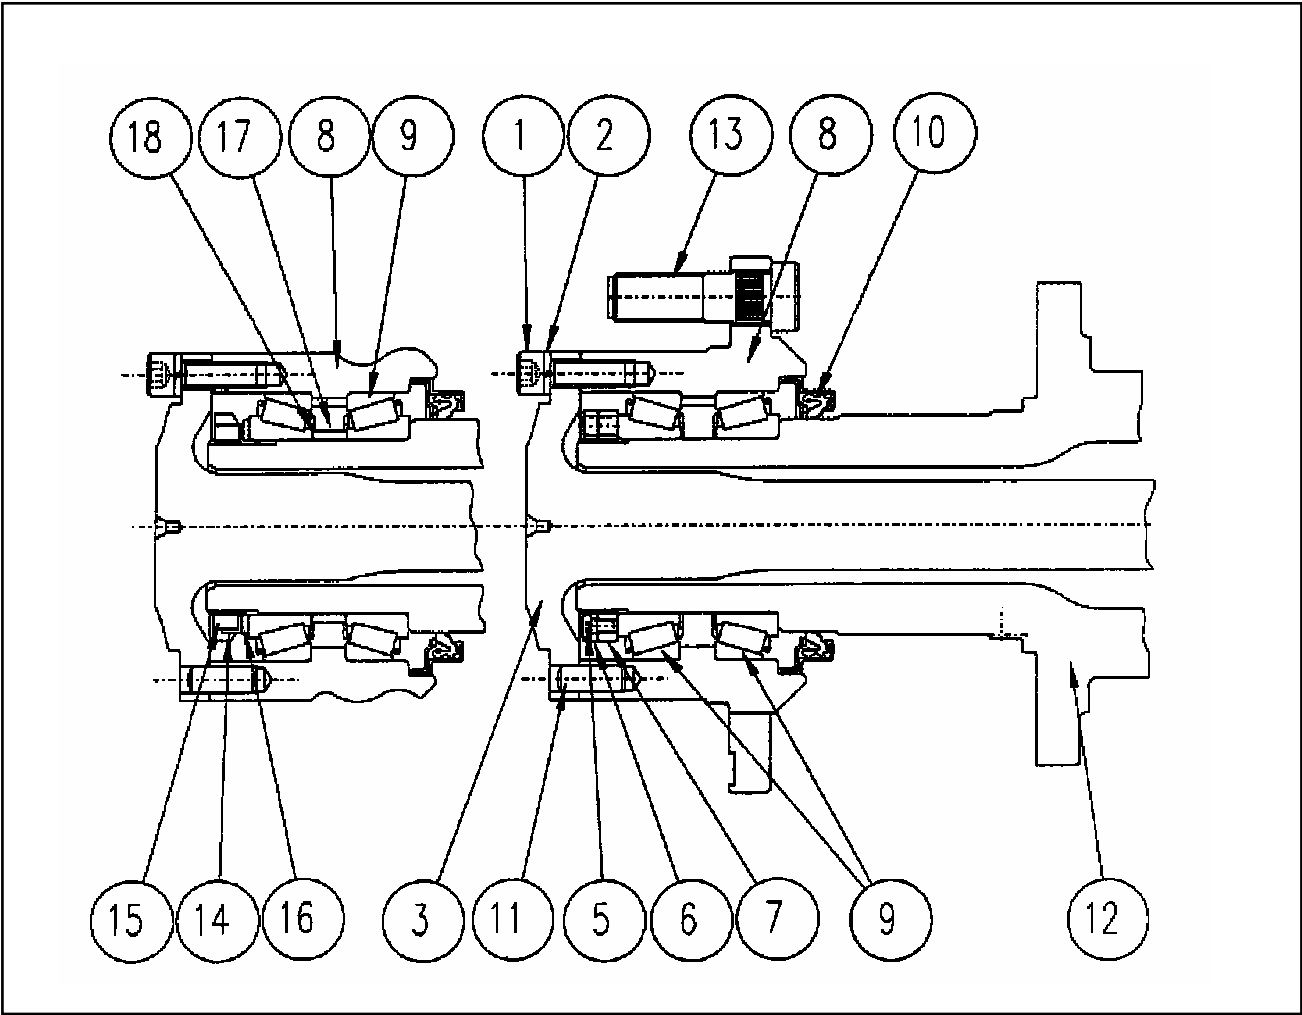

Figure B22 - Section Through Hub
The item numbers in the text refer to the components shown on **Figure B22**. The diagram is schematic only and as such does not accurately represent the actual shape of the components. For identification of actual parts, part numbers and quantities, please refer to the Parts List supplied as a separate manual.
3. Unscrew and remove capscrews (item 1) complete with spring washers (item 2).
4. Withdraw the drive shaft (item 3) using the M10 x 1.5 tapped extractor hole provided. One of the fixing capscrews may be utilised for this purpose.
5. **Twin hub nut type** (See figure B22)
- 5.3. Hold hub (item 8) square to the axle and tap off with a soft face hammer against the hub flange. This will remove hub complete with bearings (item 9) and seal (item 10).
6. **Single hub nut with lock washer** (See figure B22)
1. New wheel studs (item 13) may be fitted into the hub (item 8), if required.
2. Fit cups of bearing (item 9) into hub (item 8) ensuring they are fully seated.
3. **Twin hub nut type.** (See figure B22)
(See figure B22)